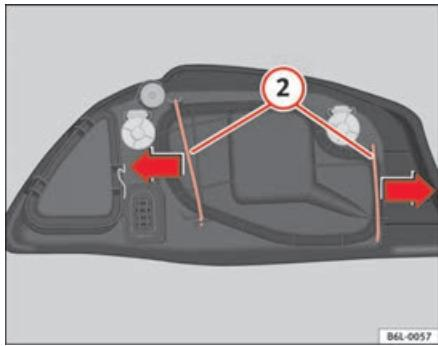

Fig. 151 Dipped head-light lamp
- Remove the loops (2 ⇒ fig. 151) outwards in the direction of the arrow and remove the cover.
- Fit the plastic cover and replace the loops (2 ⇒ fig. 151).